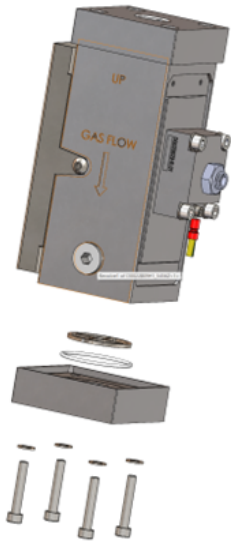

Figure 11 | Replacing the O-ring in bottom cover.
3. Use an Allen wrench to remove the screws from the bottom cover of the BFP. See Figure 11 ► 16.